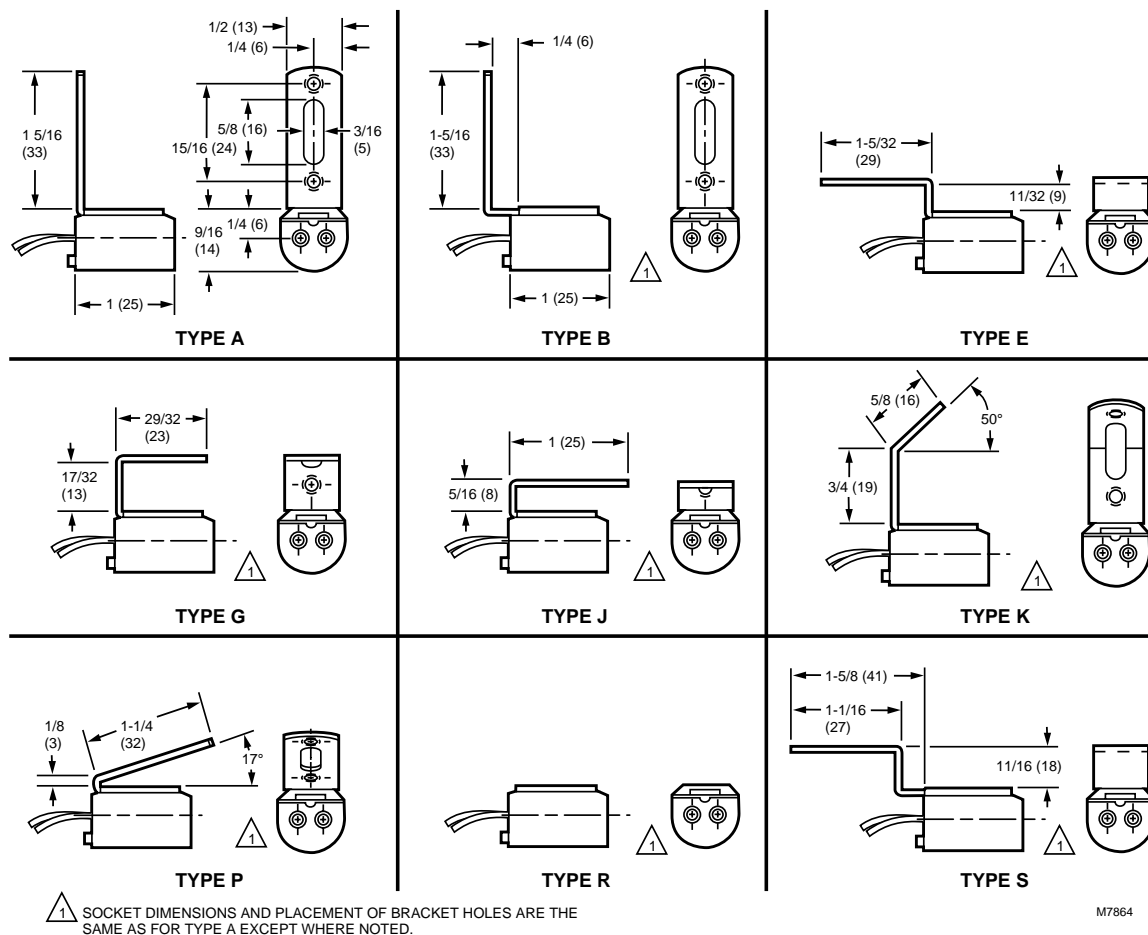

Fig. 1. Mounting bracket dimensions in in. (mm).
See Fig. 1.
### **Mounting (see Fig. 1):**
2. Type of mounting bracket on standard models (Fig. 1).